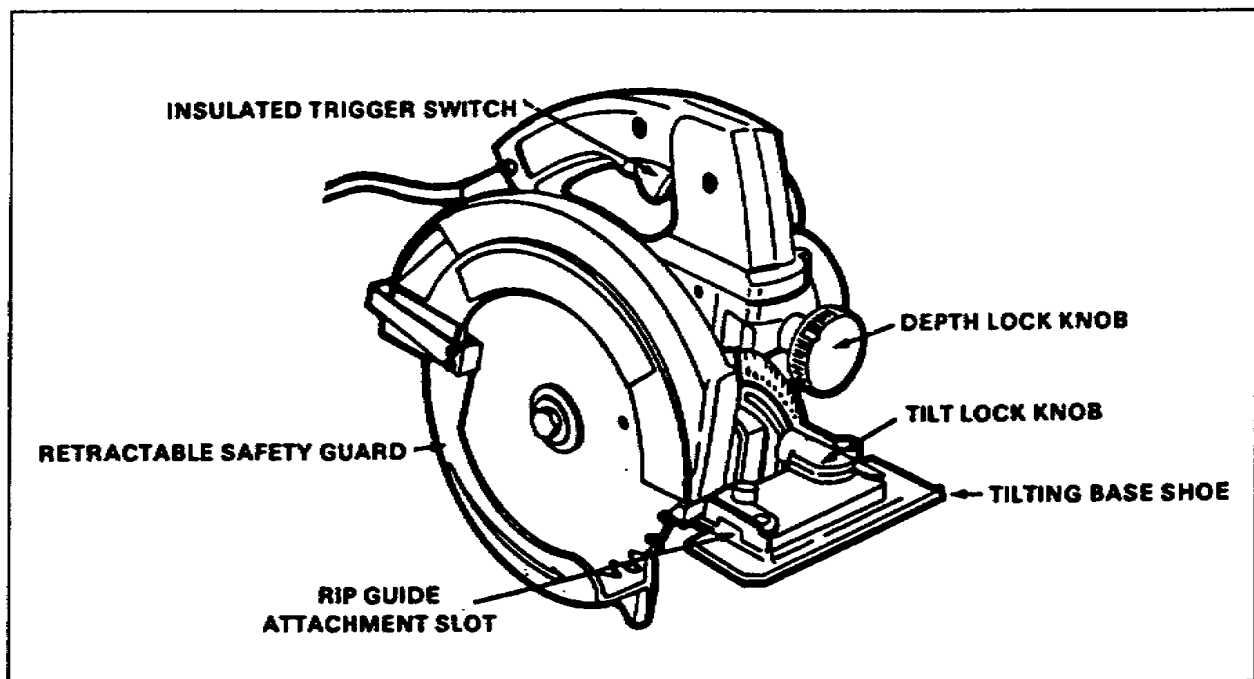

Figure 2-55. Electric handsaw
b. Electric Handsaw. Figure 2-55 shows the parts of the electric handsaw. Learn these parts and become very familiar with the operation of the saw before trying to use it.
c. Circular Saw. The circular saw has a calibrated scale to control the depth of the cut by raising or lowering the base shoe of the saw. The saw may also be tilted to cut up to a 45-degree bevel cut. Figure 2-55 also shows the scale and tilt lock knobs.
d. Safety Guard. The operator is protected by a safety guard (Figure 2-55), which is pushed back by the piece being cut and returns automatically when the saw is removed from the work.